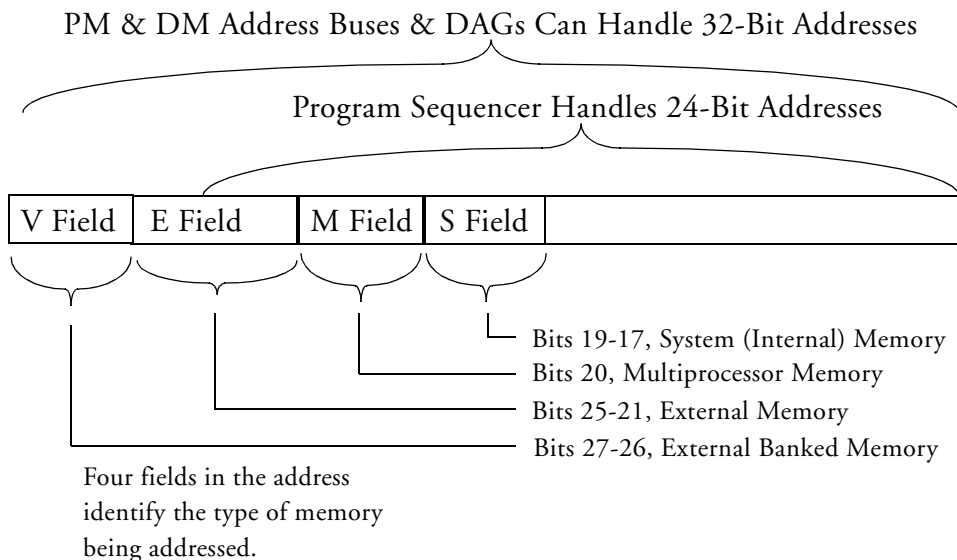

Figure A-14. PM and DM Bus Addresses Versus Sequencing Addresses
As shown in Figure A-14, the address buses can handle 32-bit addresses, but the program sequencer only generates 24-bit addresses over the PM bus. Since the sequencer generates 24-bit addresses, sequencing is limited to the low 64 Mwords of the DSP's 254 Mword memory map.
Table A-13 describes the three fields that appear in Figure A-14. The content of the External (E), Multiprocessor (M), and System (S) fields in the address route the data or instruction access to the memory space.